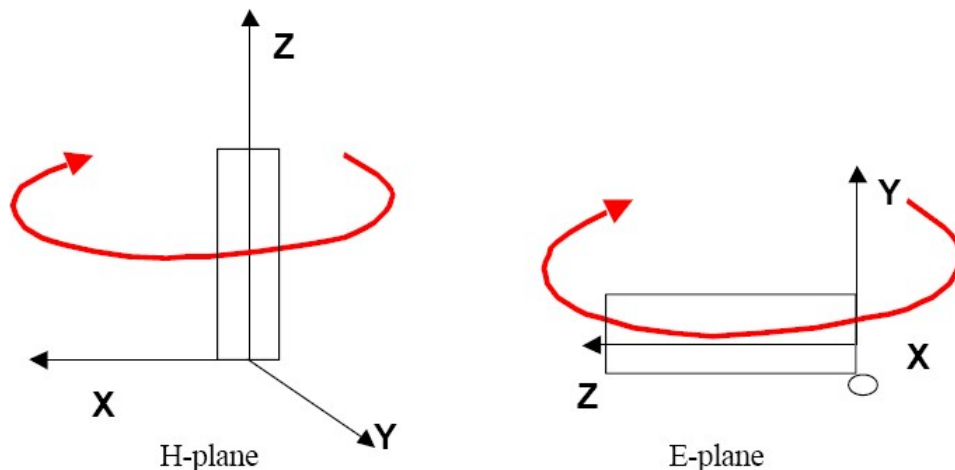

Fig. 4. The plane definition : H-Planes and E-Planes.
- (4) Gain of AUT. The standard gain antenna is a gain horn(SG-430 1.7GHz ~ 2.6GHz).
- (5) The planes defined in the Fig. 4 which we want to measure are H(X-Y) and E(X-Z) planes. The vertical or horizontal polarization's power is measured by rotating the antenna probe to 0 degree or to 90 degree shown in Fig. 3, respectively. While we combine both vertical and horizontal power, we obtain total power.
- (6) From the total power in three basic planes(H, and E), we can analyze the performance of the antenna is good or not.